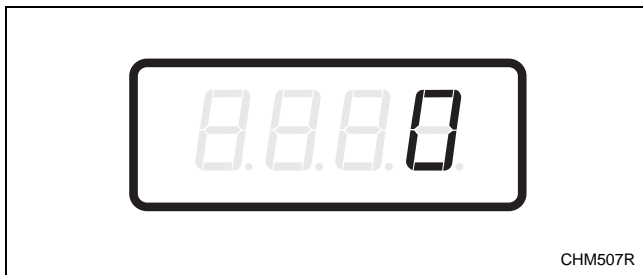

Figure 6
4. When “PLSE” appears in the display, press the START (enter) keypad. There are five digits in the Start Pulse Value. The fifth digit will appear in the display and will flash one (1) second on and one (1) second off. Refer to *Figure 6*.